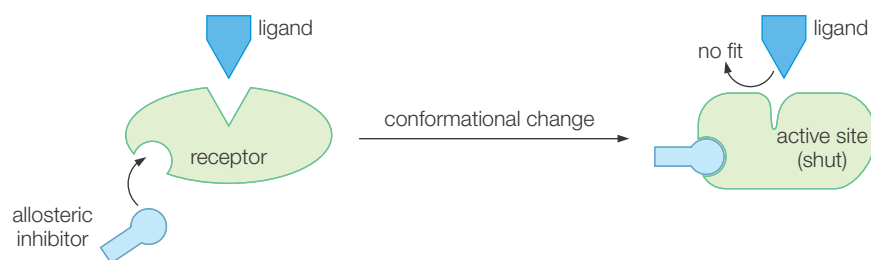

Figure 25.9 Allosteric inhibition of a drug
- **Allosteric:** the drug molecule binds to a site on the surface of the protein other than the substrate binding site. This action changes the three-dimensional shape of the protein which may increase or decrease (Figure 25.9) the receptor's response to the natural substrate (ligand).